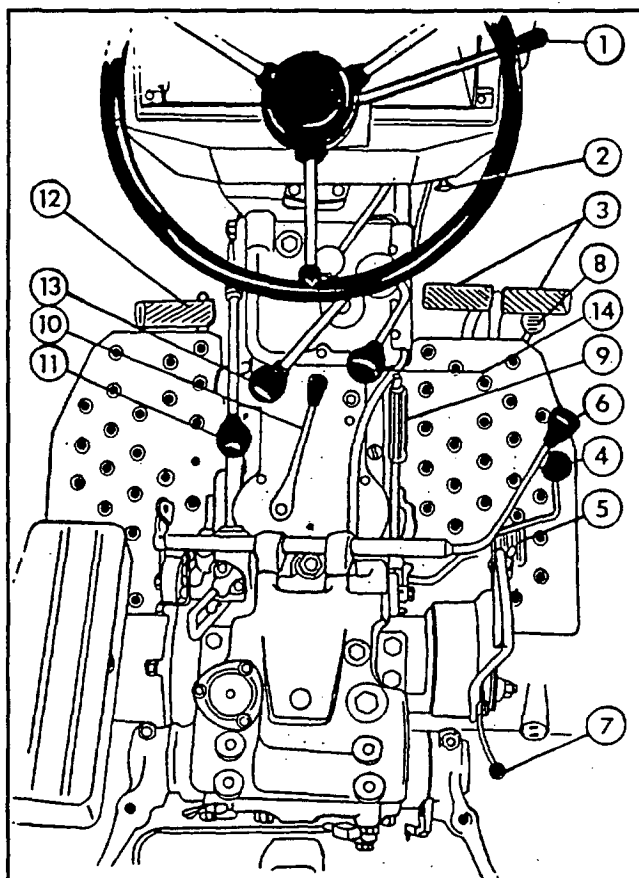

Fig. 5 - Operating Controls and Instruments
4. **Hydraulic Lift Control Lever** - This lever controls the raising and lowering of the three point hitch and any implement attached to it. To raise the lift, move the control lever up and to the rear of its' quadrant. To lower the lift, slowly move the lever forward and down until the desired operating position is obtained. (See Fig. 5). Do not operate levers 4 & 7 at the same time because the hydraulic system will not function properly.
This switch can be turned to six different positions as indicated in Fig. 5. The circuits are controlled as shown in the chart on this page.